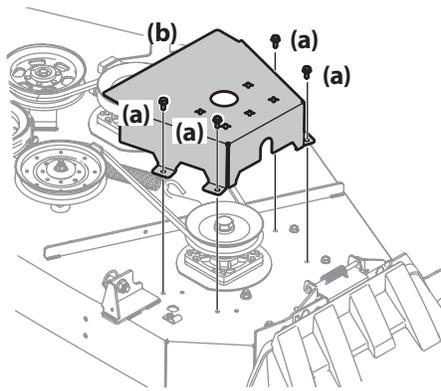

Figure 4-17
- Remove the hex washer screws (a) securing the belt covers (b) to the deck. See Figure 4-17.
- Install the new belt around the spindle pulleys as shown and reinstall the belt covers (b). See Figure 4-17.